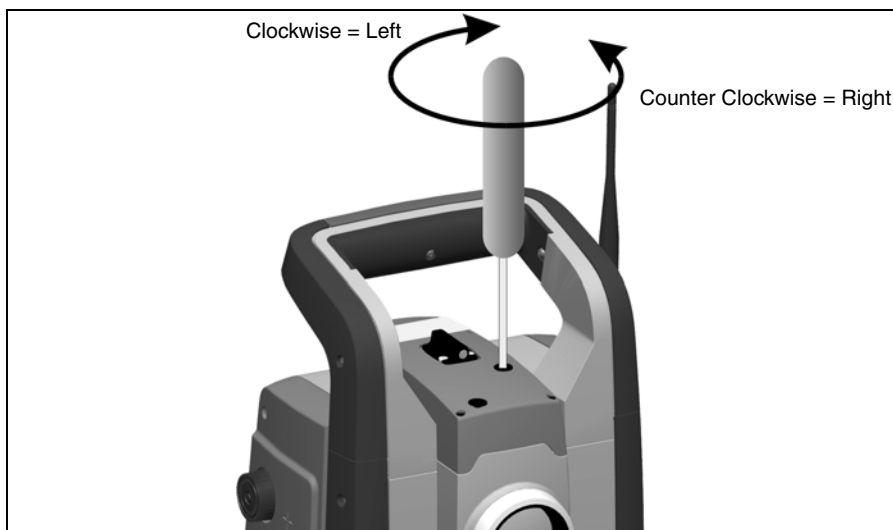

Figure 4.31 Horizontal position adjustment
3. To correct the horizontal position of the laser spot, insert the allen key into the horizontal adjustment port and turn it as shown in Figure 4.31.